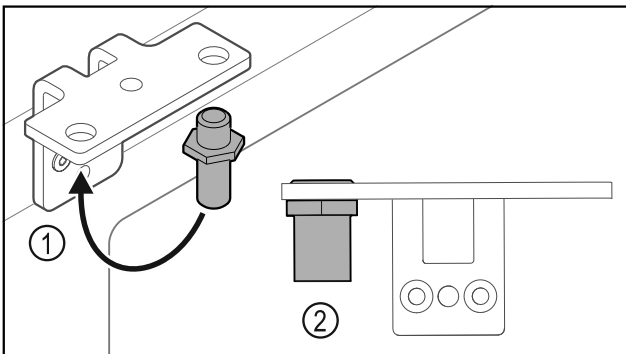

Fig. 27
- ▶ Put the pin back into the hinge Fig. 27 (1).
- ▶ Tighten the pin Fig. 27 (2) to a **torque of 12 Nm (9 ft-lb)**.